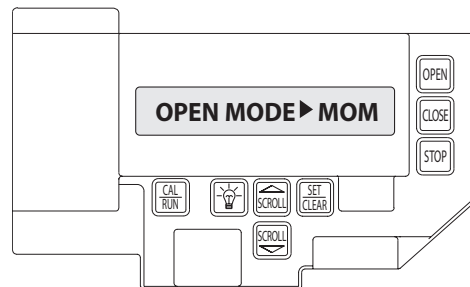

Figure 10
- 2) Press SCROLL  until display reads "OPEN MODE>MOM" or "OPEN MODE>C-STP." **Figure 10.**
- 2) Press SCROLL  until display reads "CLOSE MODE>MOM," "CLOSE MODE>C-STP" or "CLOSE MODE>C-REV." **Figure 10.**